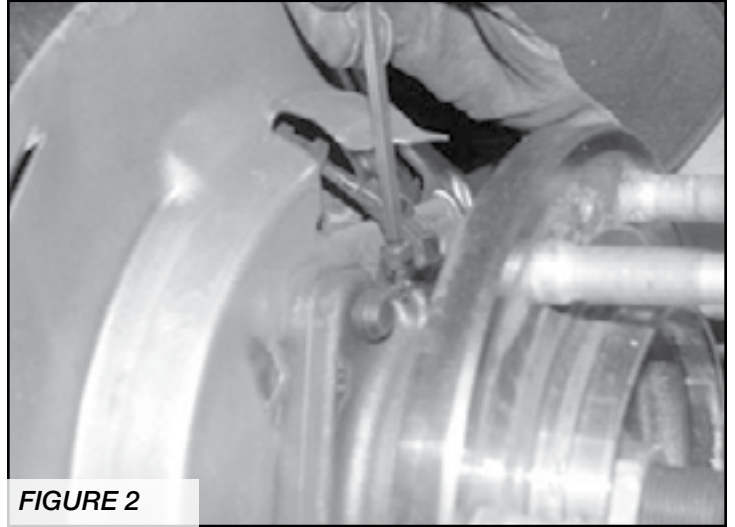

FIGURE 2
5. Remove the brake hose bracket from the top of the steering knuckle. Remove the caliper from the rotor and place above the upper control arm during this portion of the installation. Remove brake rotor from the steering knuckle. Unbolt the wheel speed sensor connection from the hub and control arm. **SEE FIGURE 2**